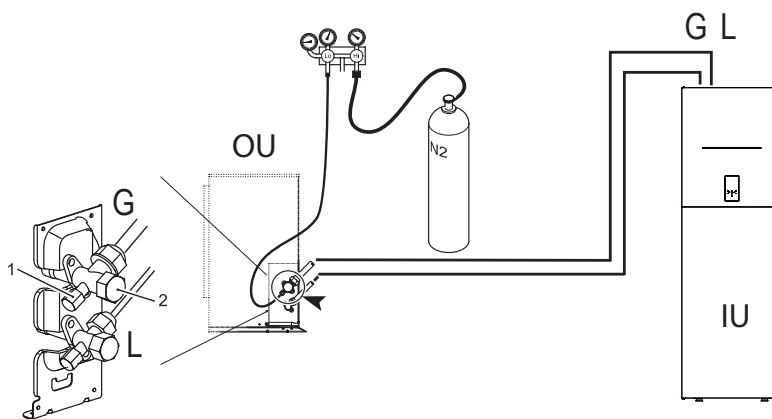

fig. 13 - Airtight test and leakage detection
- With the service valves of the outdoor unit completely shut, remove the cap from the service tap (part 1 - fig. 13) and the union (part 2 - fig. 13) of the gas valve (the larger one)